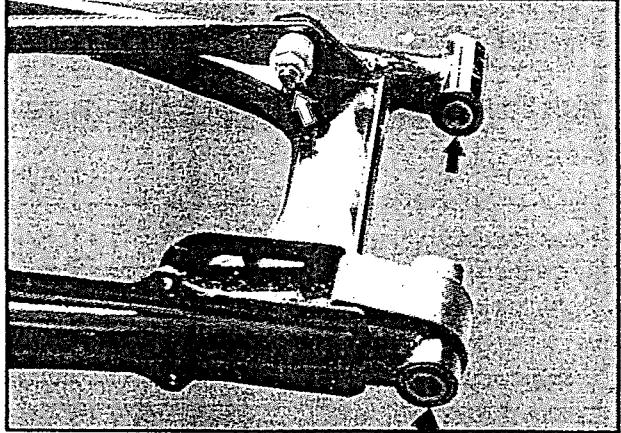

Fig 6.70
- Remove the split pin of the torque link nut (front end) and remove the nut (fig 6.70)
- Inspect the wear of the bushes (fig 6.70)